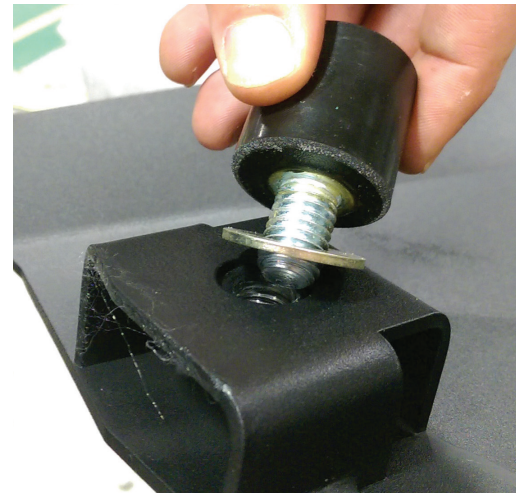

Figure 14
**1. Install and hand tighten the rubber bumpers and 1/2" flat washers to the visor. (Figure 14)**